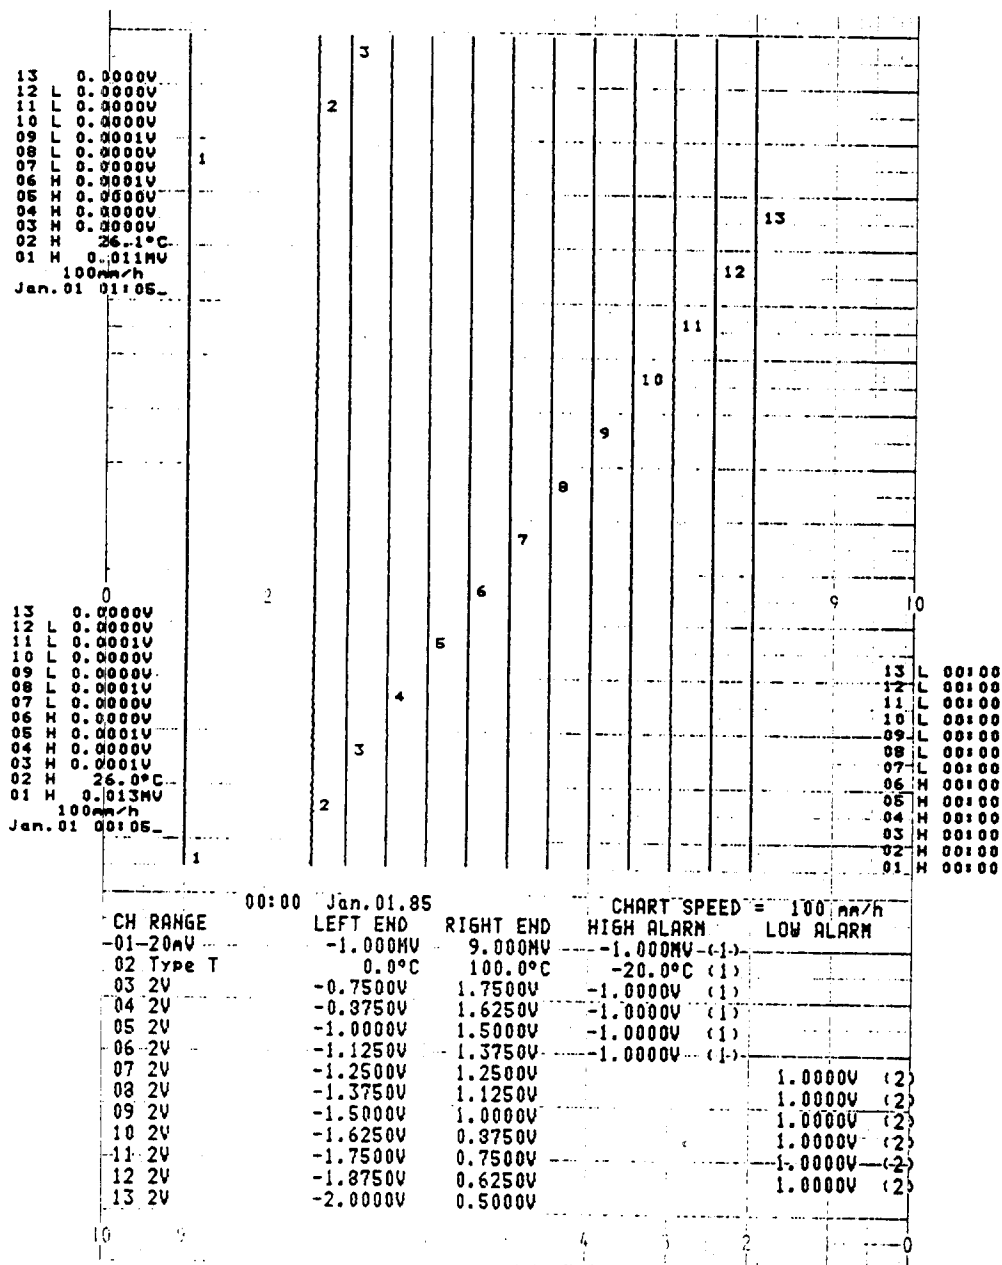

Figure 10-3.
- 3) Press LIST key then press PRINT key and confirm that the record shown in Figure 10-3 is printed out.
- 3) Press LIST key then press PRINT key and confirm that a record like Figure 10-3 is printed out.